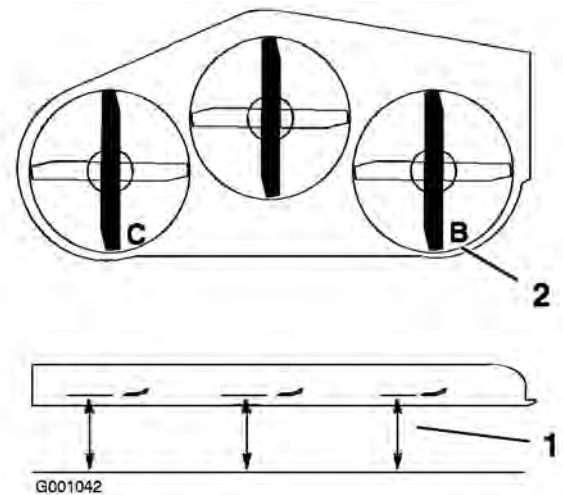

Figure 68
- Position the **right** blade front-to-rear (Figure 68).
- Measure the right blade at the **B** location, from a level surface to the cutting edge of the blade tip (Figure 68).
- Position the left blade front-to-rear (Figure 68).
- Measure the left blade at the **C** location (Figure 68), from a level surface to the cutting edge of the blade tip .